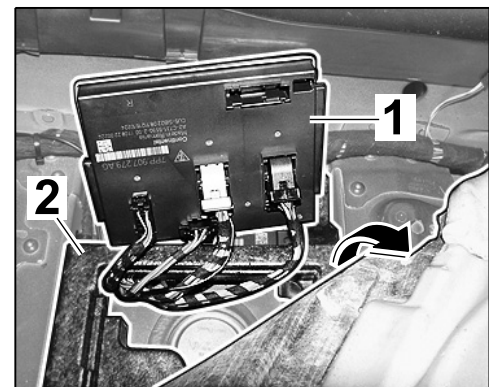

Figure 18
2.3.2 Fold carpet ⇒ *Figure 18-arrow*- aside.